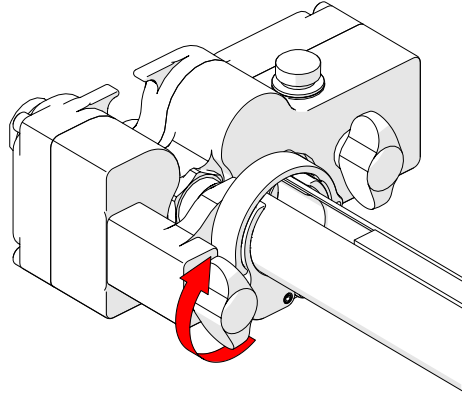

Fig. 259 - Tighten wing knob
2. Tighten the cable management clamp wing knob (Fig. 259).